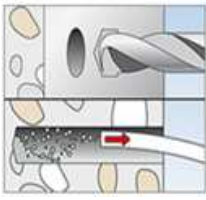

Figure 1
2. Drill **70 mm deep** into the substrate with a **masonry drill bit (Ø 20 mm)**. Now clean the drill hole by vacuuming out the drill dust [Fig. 1].